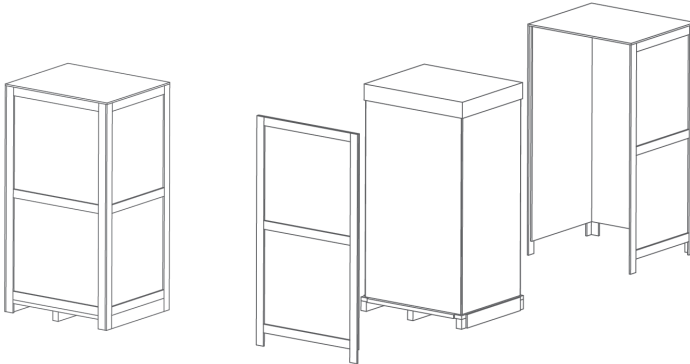

Figure 5. Unboxing 1
1) Remove the wooden sides of the package. See Figure 5.